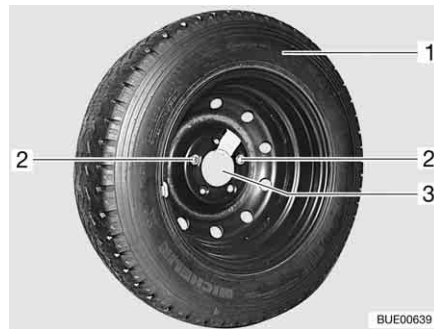

Fig. 283 Spare wheel support in the rear garage
- Loosen and remove both fixing screws (Fig. 283,2) with the on-board tool set.
- Remove the spare wheel (Fig. 283,1) from the support (Fig. 283,3).